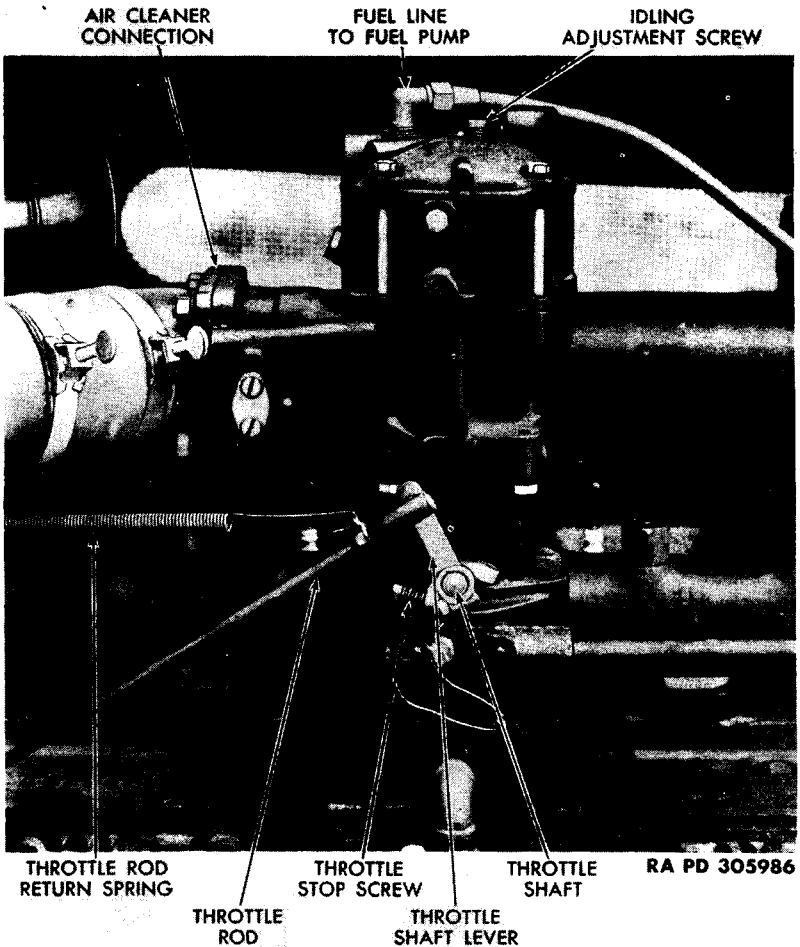

Figure 41—Carburetor Controls
of oil filter). Loosen set screw and disconnect hand throttle control wire. Loosen set screw, and pull choke control cable wire from fitting at lower left side of carburetor air intake. Unhook carburetor throttle rod return spring (fig. 41). Loosen set screw and pull out spark control cable at fitting on right side of distributor housing.
n. Install Control Cables and Rods (fig. 41). Push spark control wire into fitting on right side of distributor housing, and tighten set screw. Push choke control cable wire into fitting at lower left side of carburetor air intake and tighten set screw. Fasten carburetor throttle hand control wire at set screw on left-hand end of throttle cross shaft. Install and tighten nut on accelerator linkage at left-hand end of throttle cross shaft.